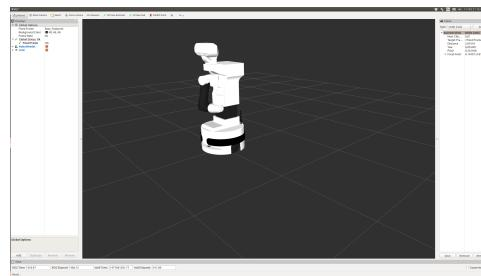

Figure 5.2: TIAGo robot displayed in rviz.
3.- At the bottom of the same panel click on the *Add* button. Then, from the opened window select *RobotModel* to visualize the robot. You can also add a *Grid* element to visualize the floor (see Fig. 5.2).